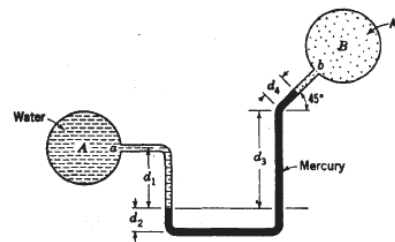

Fig. 2-64
2.92 Find the difference in pressure between tanks A and B in Fig. 2-64 if $d_1 = 330 \text{ mm}$, $d_2 = 160 \text{ mm}$, $d_3 = 480 \text{ mm}$, and $d_4 = 230 \text{ mm}$.